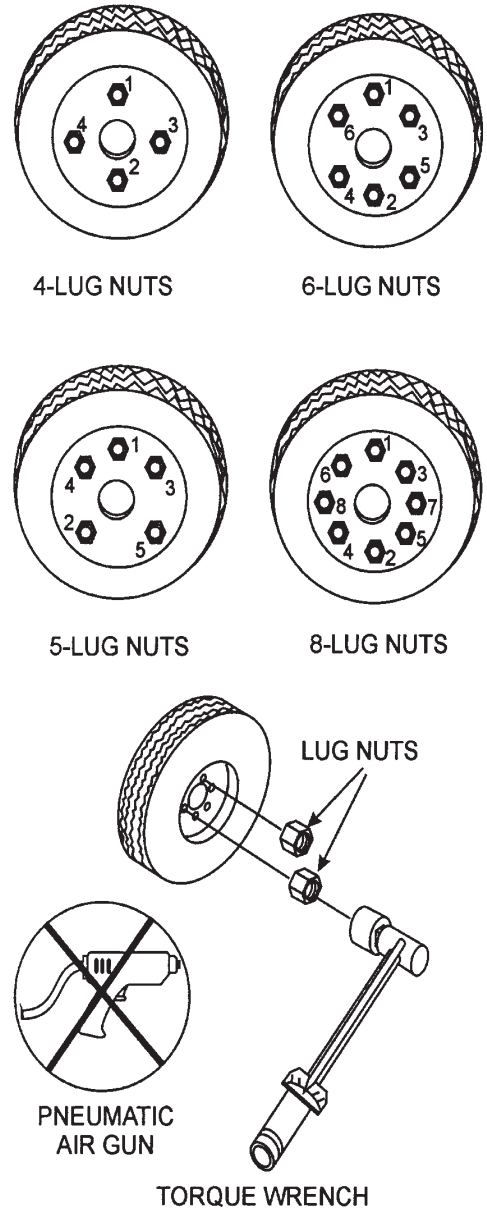

Figure 61. Wheel Lug Nuts Tightening Sequence
12. **Lug Nuts** — Used to secure the wheel to the wheel hub. Always use a torque wrench to tighten down the lug nuts. See Table 18 and Figure 61 for lug nut tightening and sequence.
2. Torque all lug nuts in sequence (see Figure 61). **DO NOT** torque the wheel lug nuts all the way down. Tighten each lug nut in 3 separate passes as defined by Table 18.